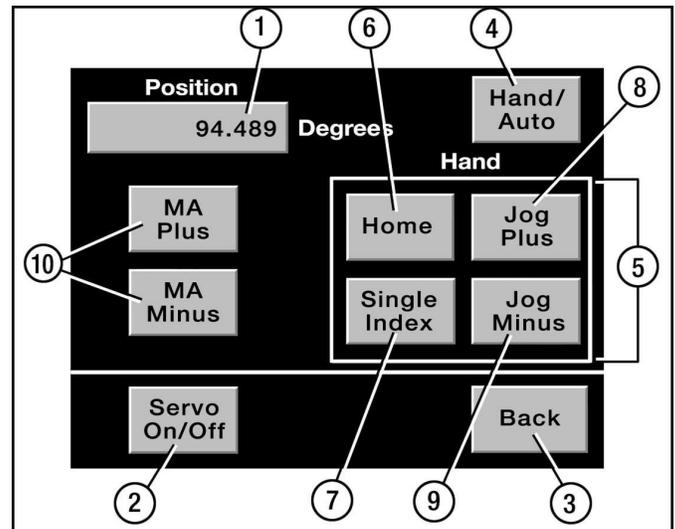

Figure 5.3 - Run Screen
(See Figure 5.3)
5. **Hand Control Window** - The appearance of this window changes as you switch from “*Hand*” to “*Auto*” Mode with **Button #4**. In “*Auto*” Mode this window will be empty and the legend “*Auto*” will be displayed above the top edge. In “*Hand*” Mode four additional buttons will be displayed inside the window as shown in *Figure 5.3*.
**NOTE:** The (2) extra buttons shown in *Figure 5.3* are the Manual Adjust Buttons for the AutoCatcher Application.